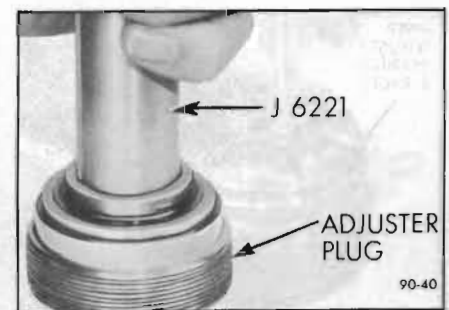

Figure 90-35—Removing Needle Bearing
5. Inspect needle bearing in adjuster plug and if rollers are broken or pitted, remove needle bearing by pressing from thrust bearing end using tool J-6221 and discard bearing. See Figure 90-35.